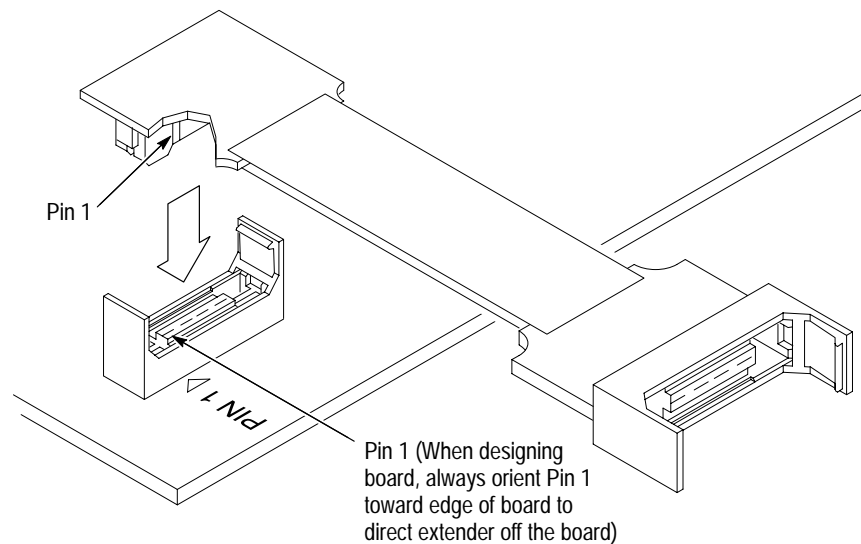

Figure 4: Connecting the Low-Profile Extender
2. Position the low-profile end perpendicular to the connector and gently connect the extender as shown in Figure 4.
**NOTE.** Be sure to orient pin 1 on the Mictor connector in your SUT to direct the extender off the board as shown in Figure 4.